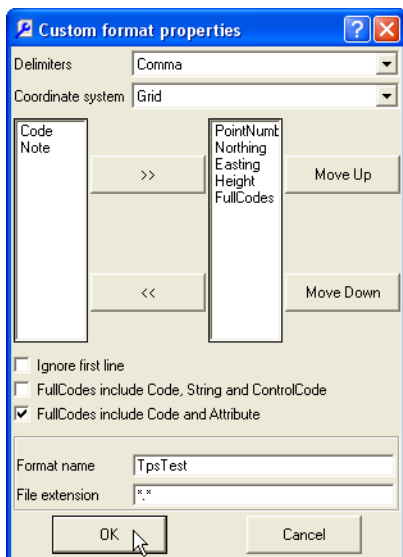

Figure 3-12. Enter Format Name and File Extension
11. Name the format and give it an extension to include it in the *Format name* list (Figure 3-12 on page 3-13).